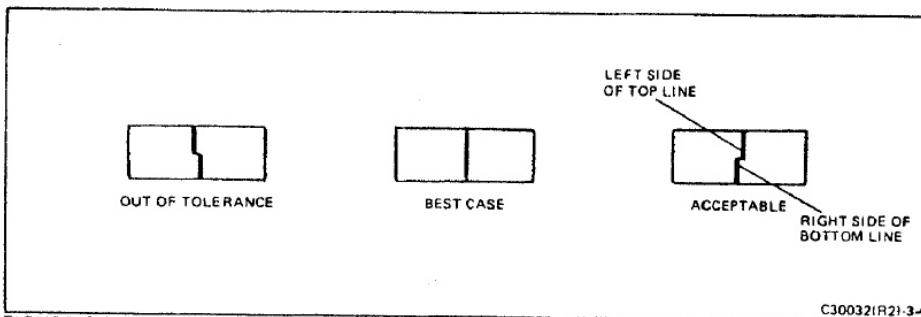

FIGURE 3-4 TYPICAL COLLIMATION CONDITIONS
- (2) Turn on the collimator light.
- (3) View the added target with the focus wheel set to infinity.
- (4) Compare the observed conditions with the examples shown in Figure 3-4. As indicated (best case), the upper part of the vertical line should be aligned with the bottom part of the line or it may be displaced to the right. (If displaced to the right (acceptable), it should still be touching the lower part of the line.)
- (5) If the upper part of the line is displaced to the right so far that it does not touch the lower part of the line or if it is displaced to the left (out of tolerance), the tolerance levels are exceeded and the camera must be rejected. Corrective procedures are outlined in Section 4.
- (e) Verify the infinity setting. Do this by observing the vertical line target through the collimator infinity lens and the camera optics. The line should be straight within the tolerance shown in Figure 3-4.
- (8) Look through the camera and observe the vertical line target. Compare the observed image with Figure 3-4 to determine if the camera is within specifications.
- (1) Set the camera focus to infinity and the L/D control to mid-range. Set the power supply to 5.8 volts.
- (2) Remove the front cover from the camera and install the S7 switch actuator.
- (3) Install the camera on the horn of the tester. The camera should go through its dark-slide cycle.
- (4) Remove the camera from the tester and set it on the collimator.
- (5) Swing the 8' and infinity lenses into their vertical positions on the collimator and look through the camera eyelens.
- (6) Turn the focus wheel until the vertical line in the center target is straight (refer to Figure 3-4). The camera is now collimated for the 8' setting. Tape the focus wheel so it can't be accidentally moved.
- (7) Remove the camera from the collimator and place it on the tester.
- (8) Install the flash simulator plug into the socket on the camera and close the S2 CLOSE-OPEN SWITCH.
- (9) Set the light level selector to 800 cdls/ft2.
- (10) Set the flash mode aperture switch to 8'.
- (11) Block any light from the photocell on the camera using a square of cardboard or other material.
- (12) Depress the exposure button and observe the APERTURE meter.
- (13) Record the 8' APERTURE reading and compare it to the STANDARDS Chart.
- (14) Remove the tape from the focus wheel and rotate the wheel to the 10.4" setting.
- (15) Set the flash mode aperture switch to 10.4".
- (16) With the photocell still blocked, press the exposure button and observe the APERTURE meter.